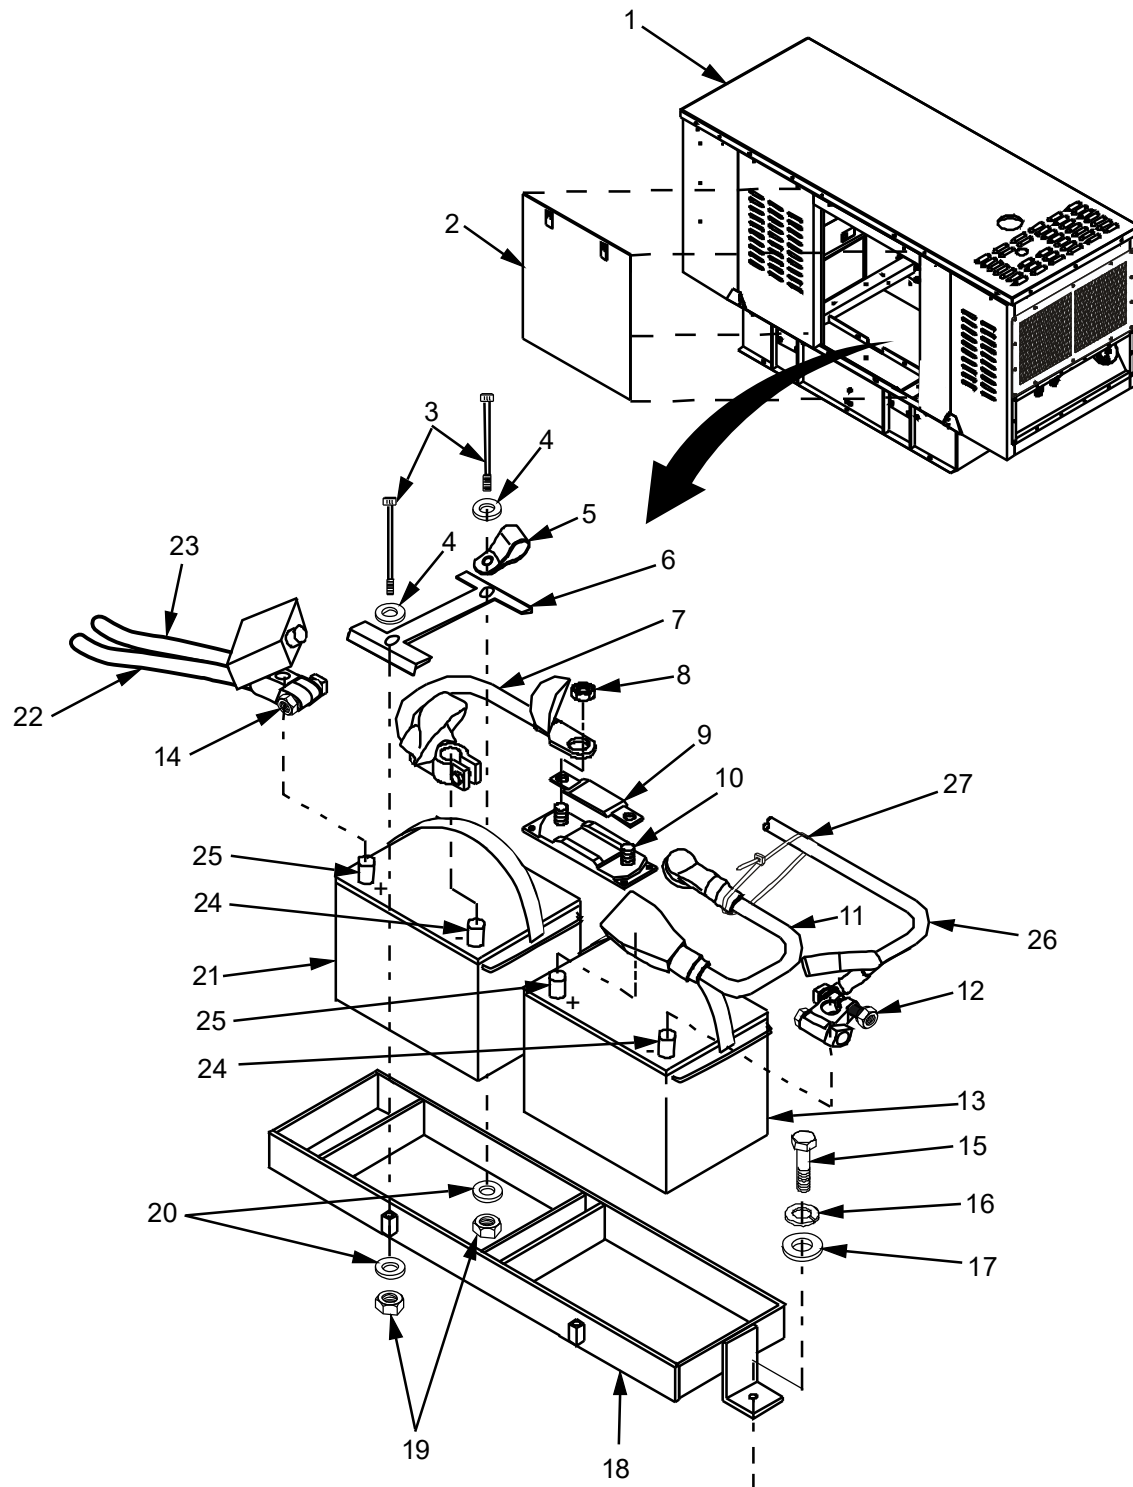

Figure 2. Battery, Retainer and Mounting Bracket - Replace.
1. Verify that Genset (Figure 2, Item 1) has been shut down, engine is cool and that BATTERY SWITCH is set to OFF (WP 0005, Genset Shut Down Procedure).
3. Remove rear access panel (Figure 2, Item 2) of Genset (Figure 2, Item 1) and set aside.
5. Remove two battery cables (Figure 2, Items 7 & 11) with fuse (Figure 2, Item 9) and fuse holder (Figure 2, Item 10) attached.
6. Remove battery retainers (Figure 2, Item 6) from batteries (Figure 2, Items 13 and 21) by removing two lock nuts (Figure 2, Item 19) and flat washers (Figure 2, Item 20) from battery retainer bolts (Figure 2, Item 3). Discard lock nuts (Figure 2, Item 19).
Cable clamp (Figure 2, Item 5) is present at one spot only.
7. Remove and retain cable clamp (Figure 2, Item 5). Lift retainer (Figure 2, Item 6), two retainer bolts (Figure 2, Item 3), and flat washers (Figure 2, Item 4) off of batteries (Figure 2, Items 13 and 21).
1. Place battery retainers (Figure 2, Item 6) onto batteries (Figure 2, Items 13 and 21), aligning holes in retainer (Figure 2, Item 6) with holes on mounting bracket (Figure 2, Item 18).
2. Add cable clamp (Figure 2, Item 5) to backside retainer bolt. Insert two retainer bolts (Figure 2, Item 3) and flat washers (Figure 2, Item 4) through retainers. Secure battery retainer bolts using two new lock nuts (Figure 2, Item 19) and flat washers (Figure 2, Item 20).
3. To ensure equal pressure, alternately tighten bolts (Figure 2, Item 3) until battery retainers (Figure 2, Item 6) are secured.
4. Install battery cables (Figure 1, Item 1) and battery fuse holder (Figure 2, Item 10). See Replacement procedure in this WP.
5. Install and secure access door (Figure 2, Item 2).
7. Start Genset (Figure 2, Item 1) in accordance with WP 0005, Genset Start Procedure.
1. Verify that Genset (Figure 2, item 1) has been shut down, engine is cool, and that BATTERY SWITCH is set to OFF (WP 0005, Genset Shut Down Procedure).
3. Remove access panel (Figure 2, Item 2) of Genset (Figure 2, Item 1) and set aside.
4. Remove battery fuse (Figure 2, Item 9) and battery fuse holder (Figure 2, Item 10). See Removal procedure described in Battery Fuse removal, Steps 4 - 10 in this WP.
5. Loosen but do not remove nut (Figure 2, Item 12) that secures battery negative cable (Figure 2, Item 26) clamp to negative (-) terminal (Figure 2, Item 24) of battery (Figure 2, Item 13). Disconnect cable clamp from battery terminal (Figure 2, Item 24) and move away from battery.
6. Loosen but do not remove nut (Figure 2, Item 14) that secures red positive battery cables (Figure 2, Items 22 and 23) clamp to positive (+) terminal of battery (Figure 2, Item 25). Disconnect cable clamp from battery terminal (Figure 2, Item 25) and move away from battery.
7. Cut two strap ties (Figure 2, Item 27), remove cable clamp (Figure 2, Item 5) and battery negative cable (Figure 2, Item 26) and move away from battery.
8. Remove two battery retainers (Figure 2, Item 6) and set aside. See Removal procedure described in this WP.
9. Remove batteries (Figure 2, Items 13 and 21) from battery bracket (Figure 2, Item 18) and set aside.
1. Set batteries (Figure 2, Items 13 and 21) into battery mounting bracket (Figure 2, Item 18).
2. Place two battery retainer(s) (Figure 2, Item 6) in approximate position over batteries (Figure 2, Items 13 and 21).
3. Install cable clamp (Figure 2, Item 5) and battery negative cable (Figure 2, Item 26), bolt (Figure 2, Item 3), and flat washer (Figure 2, Item 4), through battery retainer (Figure 2, Item 6) and mounting bracket (Figure 2, Item 18).
4. Loosely install remaining bolts (Figure 2, Item 3), flat washers (Figure 2, Item 4) through battery retainers (Figure 2, Item 6) and mounting bracket (Figure 1, Item 18). Secure bolts (Figure 2, Item 3) with four new lock nuts (Figure 2, Item 19) and flat washers (Figure 2, Items 20).
5. Secure battery negative cable (Figure 2, Item 26) with two strap ties (Figure 2, Item 27).
6. To ensure equal pressure, alternately tighten nuts (Figure 2, Item 19) until battery retainers (Figure 2, Item 6) are secure.
7. Install positive battery cables (Figure 2, Items 22 and 23) to positive (+) terminal of battery (Figure 2, Item 25) and tighten nut (Figure 2, Item 14).
8. Install battery fuse holder (Figure 2, Item 10). See Replacement procedure described in this WP.
9. Install battery negative cable (Figure 2, Item 26) to negative (-) terminal of battery (Figure 2, Item 24) and tighten nut (Figure 2, Item 12).
10. Install and secure access door (Figure 2, Item 2).